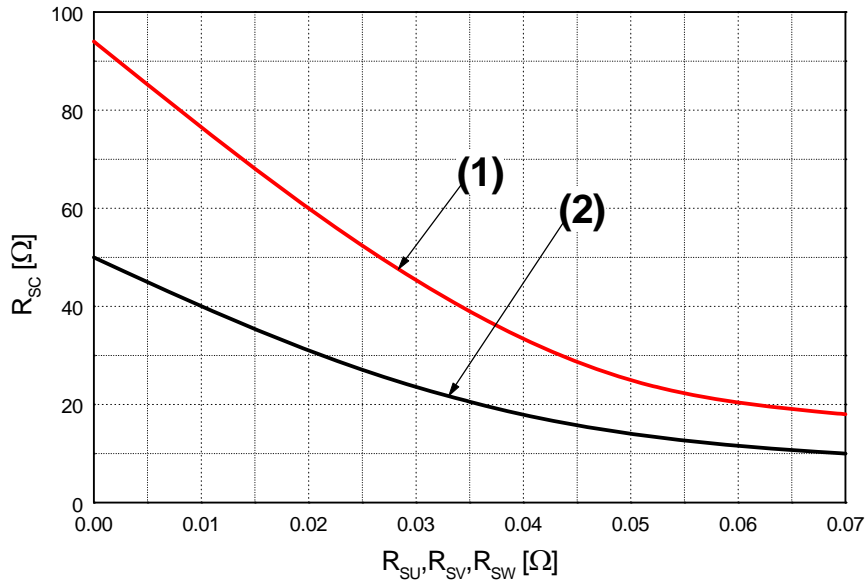

Figure 6. R_{sc} Variation by Change of Shunt Resistors (R_{su}, R_{sv}, R_{sw}) for Short-Circuit Protection
- Short-circuit protection is functioning only at the low-sides. It would be recommended that the value of the external sensing resistor (R_{SC}) should be selected around 50 Ω in order to make the SC trip-level of about 30A. at the shunt resistors (R_{SU}, R_{SV}, R_{SW}) of 0 Ω. For the detailed information about the relationship between the external sensing resistor (R_{SC}) and the shunt resistors (R_{SU}, R_{SV}, R_{SW}), please see Figure 6.